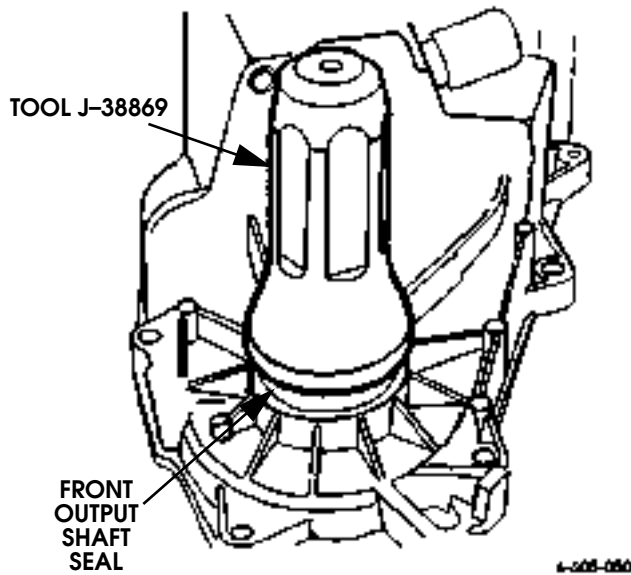

Figure 5-119: Front Output Shaft Seal Installation
5. Install new shaft seal with seal installer J-38869 (Figure 5-119). Then lubricate seal lip with Dexron III.